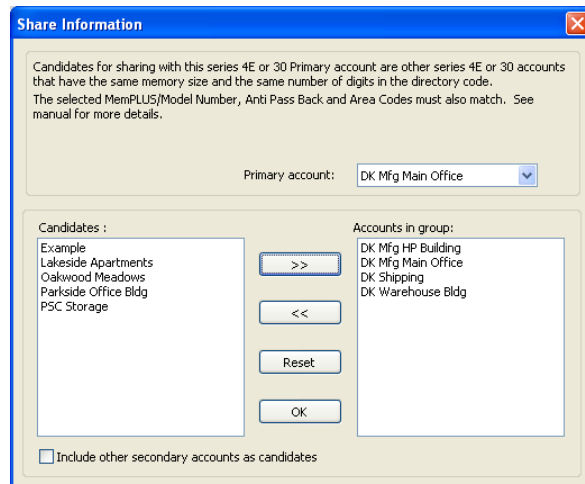

Figure 6
2. From the candidates list, click the account that you want to share the primary account user data base with, and then click the right ( >> ) button to place the account in the accounts group. In the example, DK Mfg HP Bldg, DK Warehouse Bldg and DK Shipping have been placed in the "Accounts In Group" window (Fig 6). These accounts will now share the user database associated with the primary account - DK Mfg Main Office.